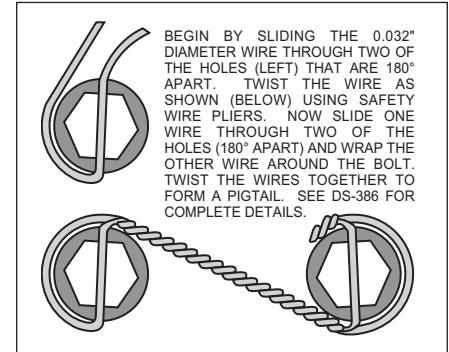

Figure 3. Safety Wire Diagram
- With the larger I.D. side of the rotor (7) facing away from the hat (8), bolt rotor (7) to hat (8) through the backside of the rotor using bolts (9), and washers (10). Torque bolts (9) in an alternating sequence to 85 **in-lb**. Safety wire bolts (9) using standard 0.032 inch diameter stainless steel safety wire as shown in Figure 3. Please refer to Wilwood's data sheet DS-386 (available at www.wilwood.com/Pdf/DataSheets/ds386.pdf) for complete safety wire installation instructions. Slide the rotor/hat assembly onto the spindle. Check to be sure the hat seats squarely against the hub. Install a couple of lug nuts (finger tighten) to keep the rotor/hat assembly in place while continuing with the installation.